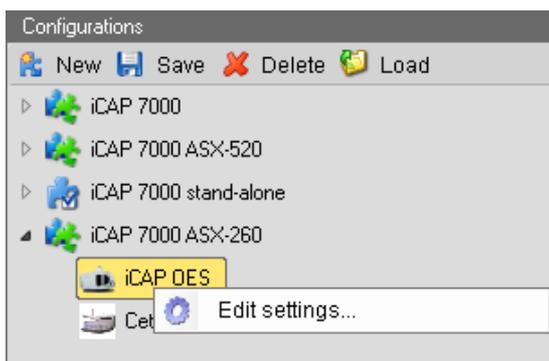
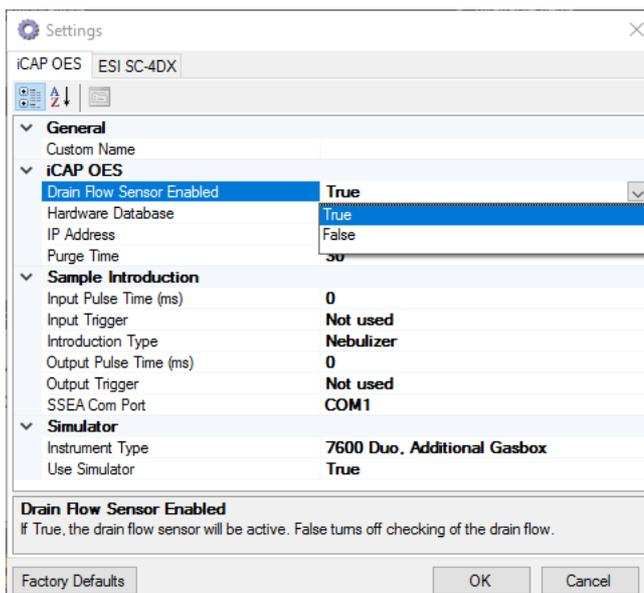

Figure 3-11. Right-click the instrument item to edit the settings
Figure 3-14. Drain flow sensor settings for iCAP OES in Configurator
1. From **Configurator > Experiment Configurator**, open the list of Configurations and right-click the instrument or peripheral you wish to edit the settings for, see Figure 3-11.
3. Click **Edit Settings** (see Figure 3-11) to open the **Settings** dialog, see Figure 3-14.
1. From **Configurator > Experiment Configurator**, open the list of Configurations and right-click the instrument or peripheral you wish to reset the settings for, see Figure 3-11.